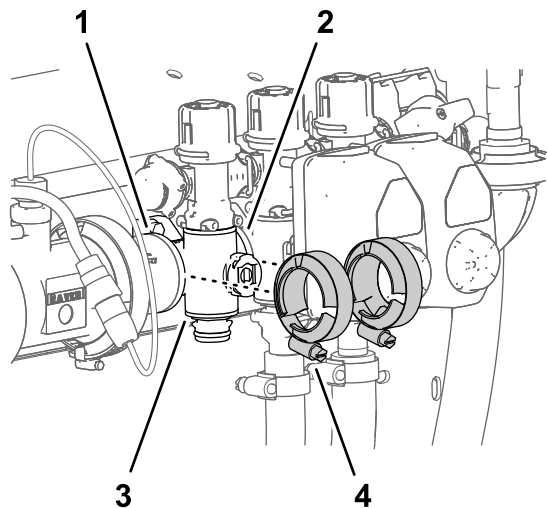

Figure 119
4. Loosely assemble the flange clamps that you removed in Removing the Section-Manifold Valve \(page 80\) to the flanges of the section-valve manifold and the flanges of the other section-valve (s) and/or coupling adapter (Figure 119).
7. Tighten the 2 flange clamps by hand (Figure 119).